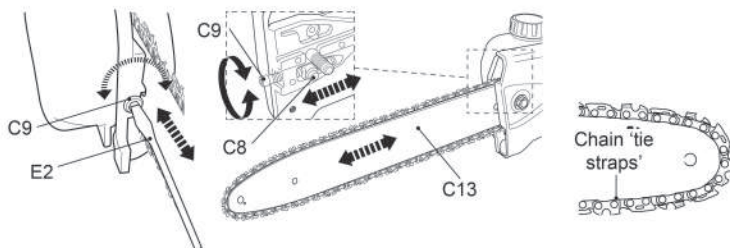

Fig. 14
- 3) Screw the tension screw (C9) clockwise or anti-clockwise to adjust the tension pin (C8) / guide bar (C13) until the chain 'tie straps' are just touching the bottom edge of the guide bar (Fig. 14).